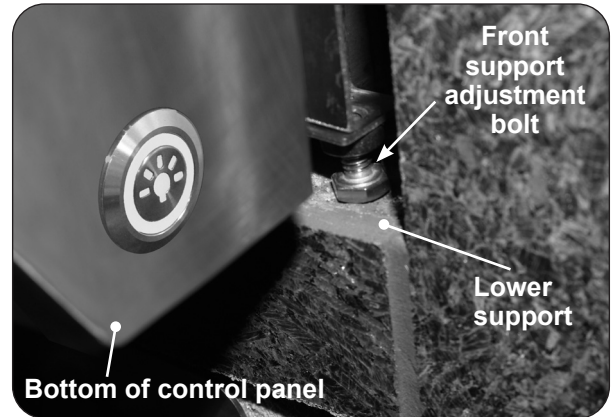

Fig. 28-2 Front support adjustment bolts
2. Rotate the front support adjustment bolts (up or down) until the griddle hanger rests flush on the countertop, AND, the adjustment bolts are touching the supporting structure found at the bottom of the cutout (lower support). Use a 7/16" open-end wrench as needed. See Fig. 28-2.